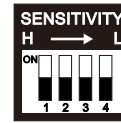

Figure 2
1. Set sensitivity to be OFF(Figure 2).